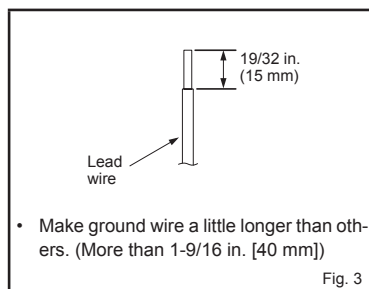

Fig. 3
- Process the end of ground wire (Fig. 3). Connect it to the ground terminal of electrical parts box.
- Process the end of indoor/outdoor unit connecting wire (A) (Fig. 3). Attach it to the terminal block. Be careful not to make mis-wiring. Attach the wire to the terminal block securely so that its core cannot be seen, and no external force affects the connecting section of the terminal block.
- 4) Put the drain cap into the section to which the drain hose is to be attached at the rear of the indoor unit. (Fig. 3)
- When connecting the drain hose to a hard vinyl chloride pipe, be sure to insert it securely into the pipe. (Fig. 3)
- 2) Remove all burrs from the cut section of the pipe, ensuring that precautions are taken to avoid getting metal shavings into the piping. (Fig. 3)